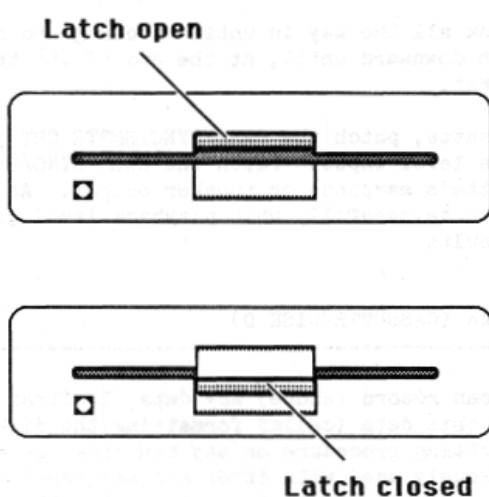

Fig. 5-5
4. To insert the disk in the drive, first make sure that the latch is in the open position (see Fig. 5-5).